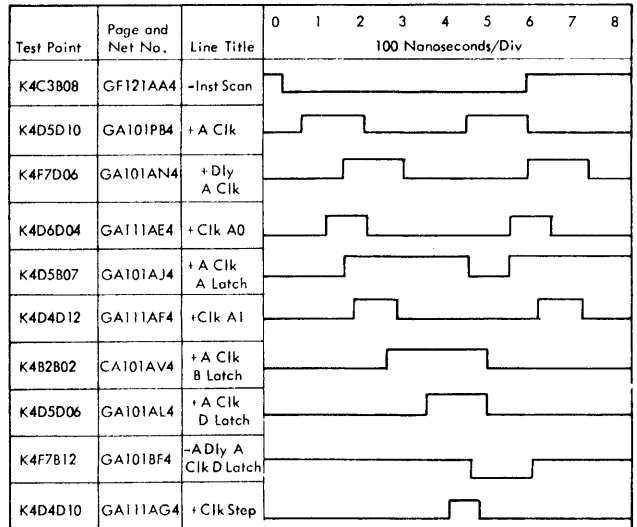

FIGURE 102. A CLOCK
2. Sync scope on L3E7B08 minus external; set first pulse on Figure 102 to zero time.
3. Press system reset to time pulses; check all points in Figure 102; ensure that clock is running.